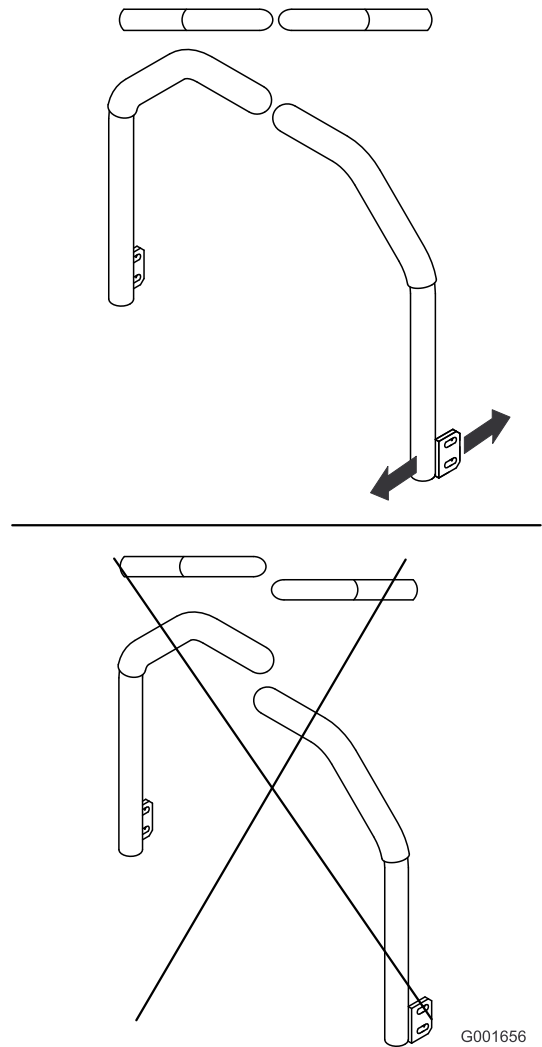

Figure 56
5. Adjust the control levers so that they line up and tighten the bolts, securing the levers to the posts (Figure 56).